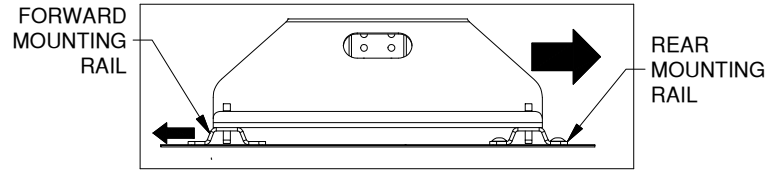

Figure F2: Side view of RV base and mounting rails.
**IMPORTANT:** Before drilling forward mounting holes pull the RV base towards the rear of the truck and push the forward rail towards the cab of the truck to correctly space the mounting rails, see Figure F2.